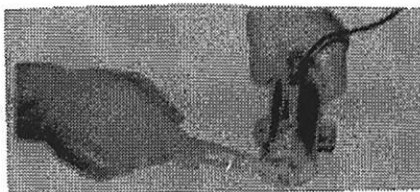

Figure 7-4. Electric Fuel Pump Disassembly
- a. Remove the bottom cover from the fuel pump by cutting the safety wire and turning the cover with a 5/8-inch wrench (Figure 7-4).